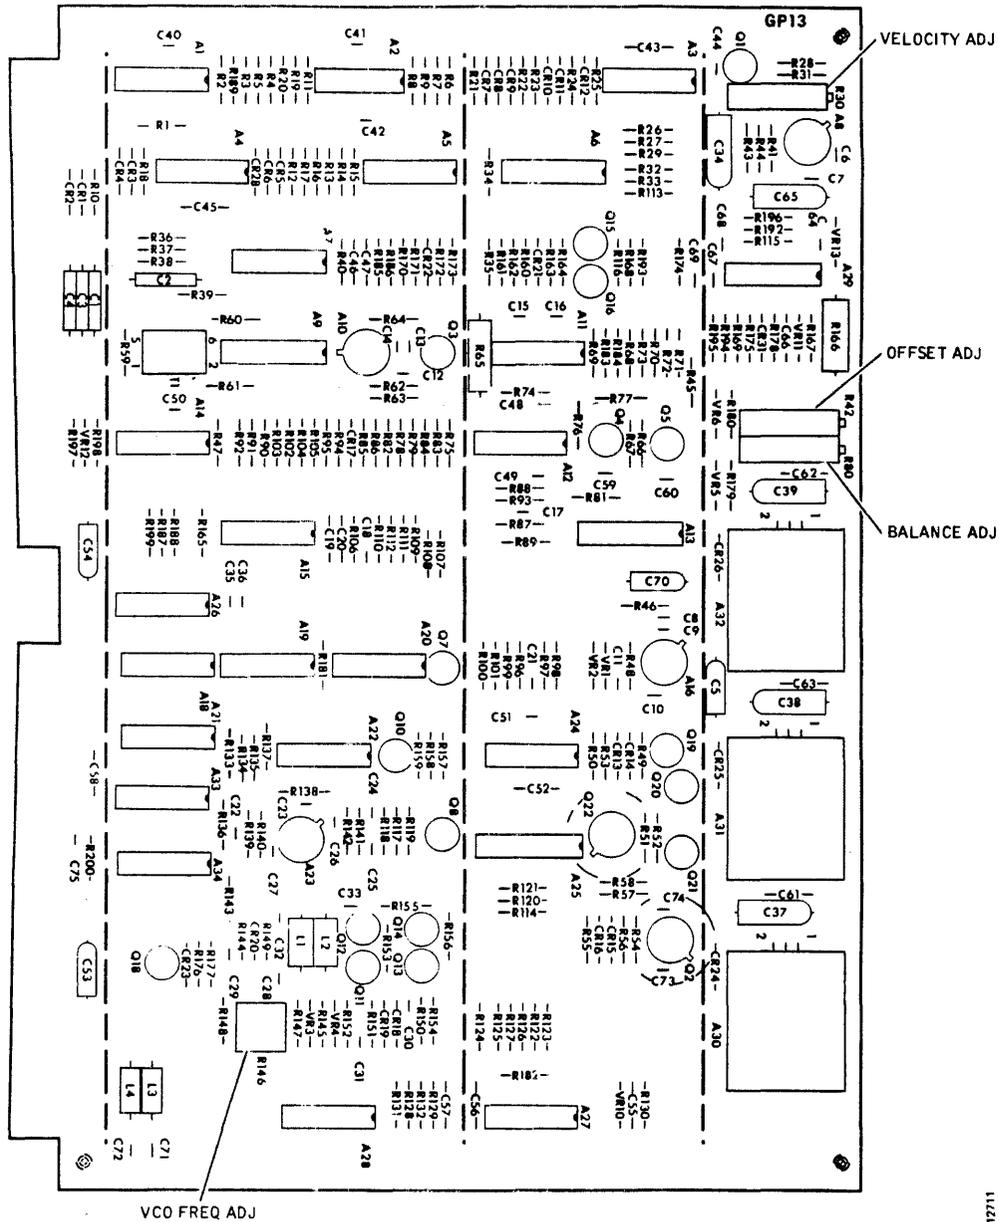
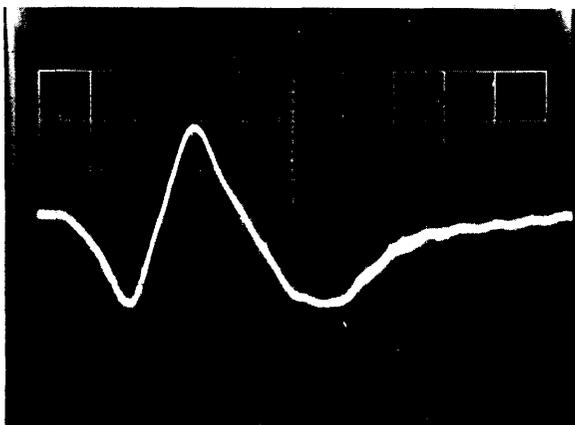

Figure 3-17. Servo Control Card Adjustment Point Locations
Figure 3-18. Balance Adjust Waveform
All adjustment points for servo system alignment are located on the Servo Control card located in card slot 6. Some adjustment points are internal to the card, requiring the card to be extended to perform complete alignment. If the entire servosystem is to be aligned, perform the procedures in the order given. See Figure 3-17 for adjustment point locations.
7. Adjust the velocity potentiometer R30 (see Figure 3-17) on the edge of the Servo Control card for a maximum negative-level duration of 51 ± 1 milliseconds on the scope display for forward or reverse seeks, whichever is longer. The shorter seek time, however, should be within 3 milliseconds of the longer.
- The scope signal mean level should be within 10 millivolts of dc ground. If it is, proceed to step 4. If not, adjust offset potentiometer R42 (see Figure 3-17) on the edge of the Servo Control card to center the mean level at dc ground.
- Turn on the exerciser CONT switch. The disk drive should begin three-cylinder, alternate-seek operation; and a scope display similar to Figure 3-18 should be observed. Readjust the exerciser POSITION RATE control to slow down the drive seek rate to a point where display jitter is emphasized but not so slow that the flicker rate is objectionable.
- Ground the scope Channel 1 input, zero the dc level, and switch back to DC. Notice that the plateau just preceding the swings in the trace may be slightly above or below the 0 volt level. Adjust balance potentiometer R80 on the edge of the Servo Control card (Figure 3-17) to bring this plateau to 0 volt. See Figure 3-18.